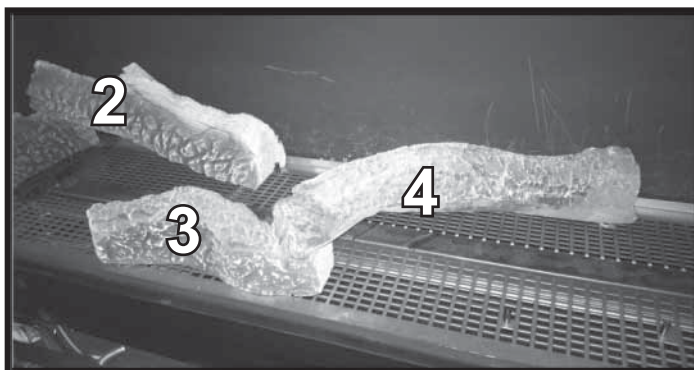

Figure 9. Log #4 (SRV2331-706)
15. **LOG #4 (SRV2331-706):** Install Log # 4 onto shoulder screw #6 by lining up shoulder screw with hole in bottom of log. The other end of the log should rest on the end of Log #3. See Figure 9.